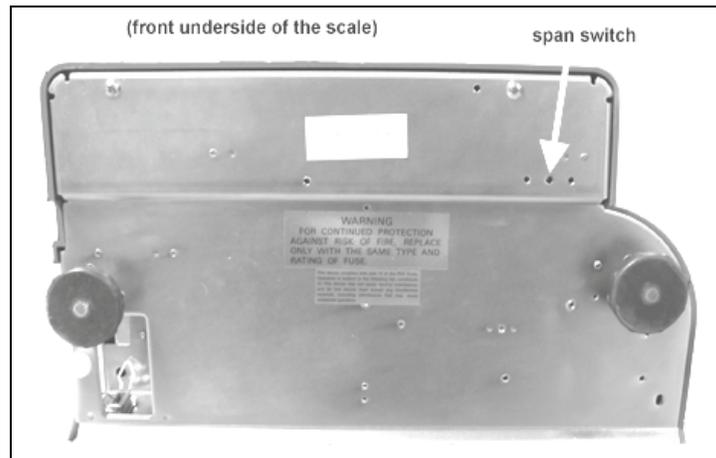

Figure 4-1. Location of Span Switch
1. Make sure the scale is turned off. Then press the span switch to reset it. (See Figure 4-1 for location of Span switch).